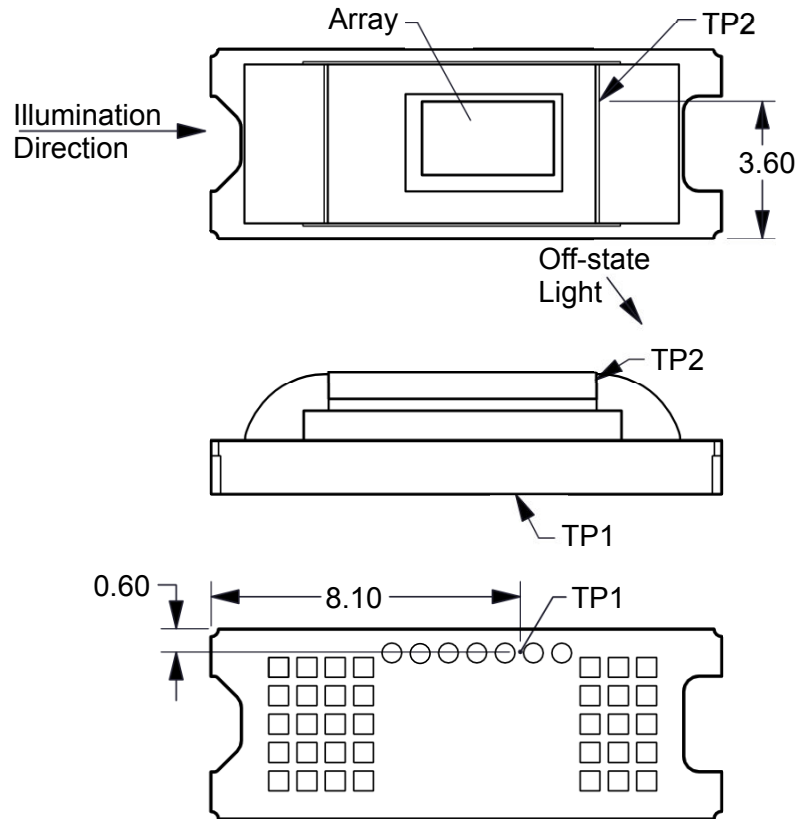

Figure 7-1. DMD Thermal Test Points
Micromirror array temperature cannot be measured directly, therefore it must be computed analytically from measurement points on the outside of the package, the package thermal resistance, the electrical power, and the illumination heat load. The relationship between array temperature and the reference ceramic temperature (thermal test point TP1 in Figure 7-1) is provided by the following equations:
- T_{CERAMIC} = Measured ceramic temperature (°C), TP1 location in Figure 7-1
- Q_{ARRAY} = Total (electrical + absorbed) DMD power on array (W)
- $Q_{\text{ELECTRICAL}}$ = Nominal DMD electrical power dissipation (W)